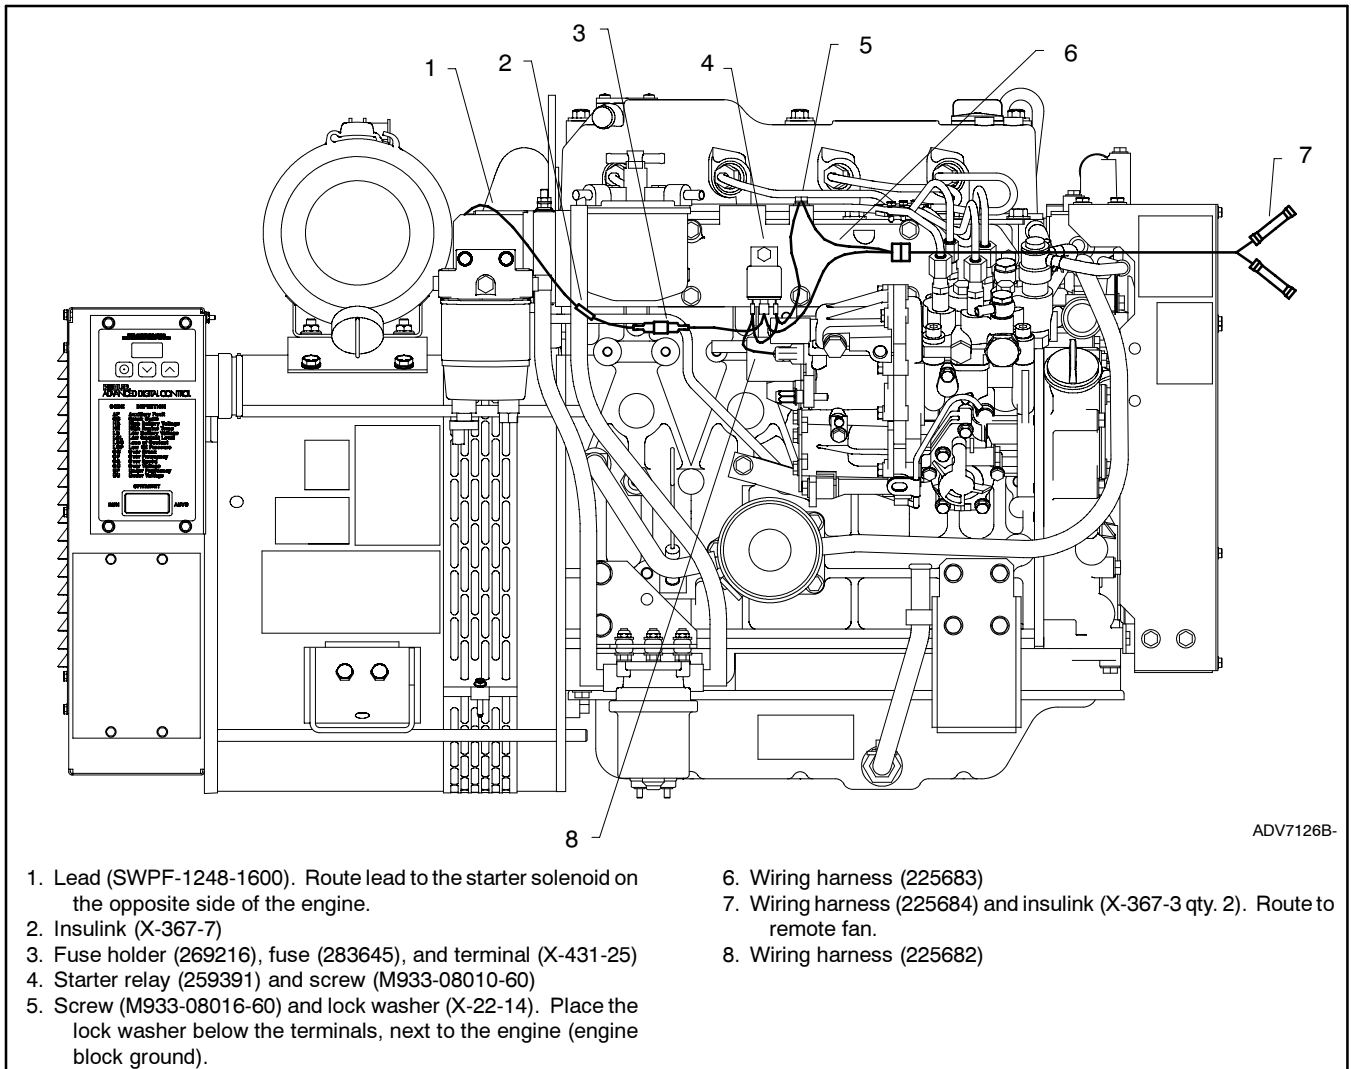

Figure 3 Wiring Assembly
5. Locate the 8 mm boss that is near the engine block ground location on the right side of the engine (above the injection pump and next to the fuel filter). Install the K30 relay (259391) with the shorter 8 mm screw (M933-08010-60). See Figure 3, item 4.
7. Install the wiring harness (225683) to the relay and ground as shown in Figure 3, item 5 using a screw (M933-08016-60) and lock washer (X-22-14). Place the lock washer below the terminals, next to the engine.